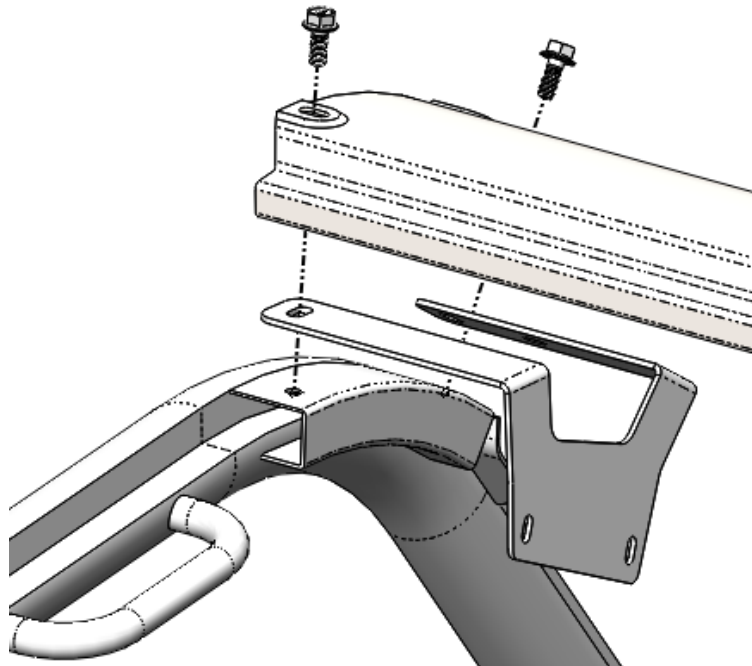

Figure 4: Mounting location of the *Audio Mini* bracket.
3. Place the driver's side bracket between the roll cage and front visor. Use the supplied M8 x 20 mm bolts and washers to snugly tighten the bracket until it is fully secured in the following steps. Verify correct orientation of the mounting bracket. See Figure 4. Note: Driver side shown. (Passenger side similar)
6. Once you have the *Audio Mini* in your desired position, gently lift the roof to tighten all 4 visor bolts. Torque the bolts to 26 ft.-lbs. See Figure 4.